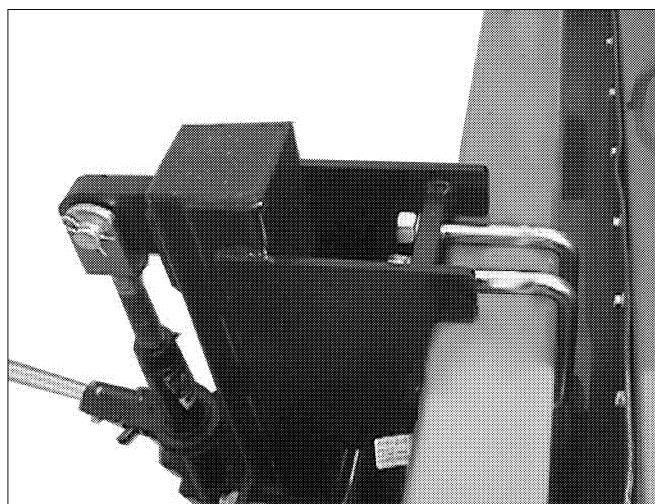

Figure 11 Wheel Mounting Bolts
2. Loose the top mounting bolts (Figure 11).